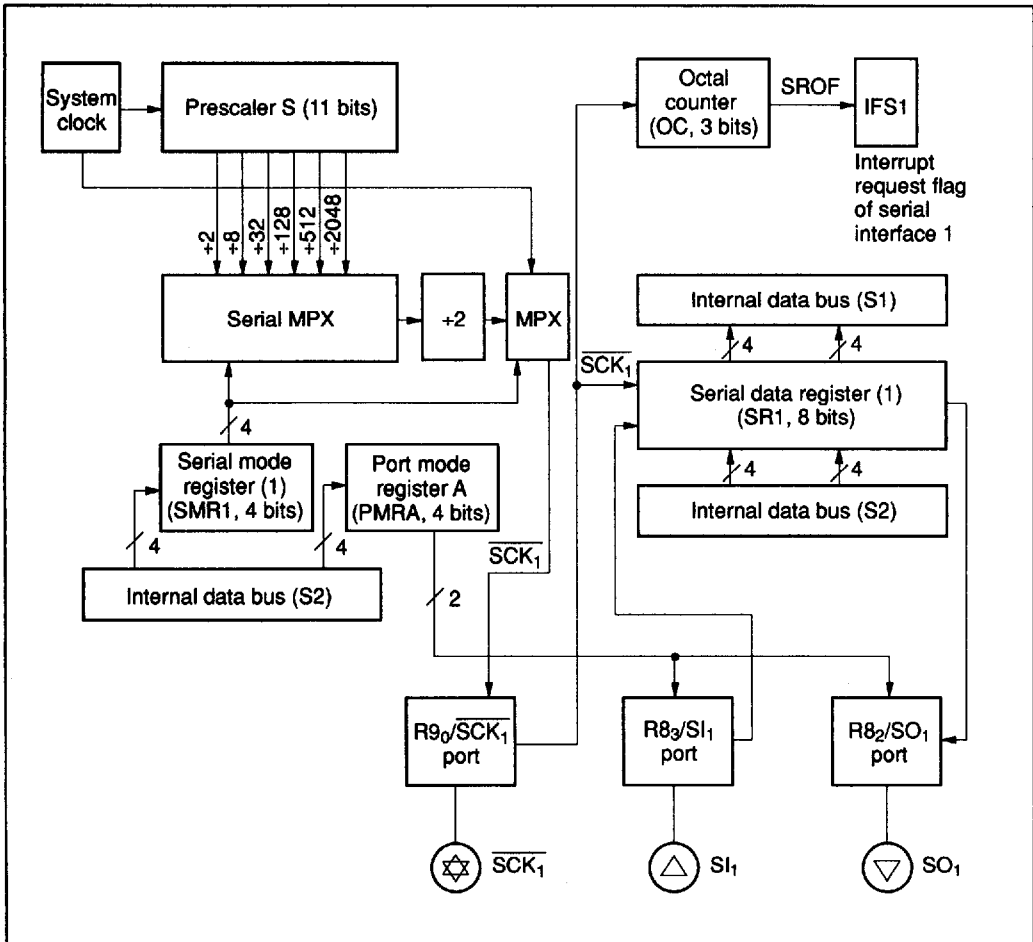

Figure 44 Serial Interface 1 Block Diagram
**Serial Interface 1:** Used to serially transmit and receive 8-bit data. It consists of serial data register 1 (SR1), serial mode register 1 (SMR1), port mode register A (PMRA), an octal counter, and a multiplexer as shown in figure 44. The  $R9_0/\overline{SCK}_1$  pin and the transmit clock are controlled by writing data to SMR1. The transmit clock shifts the con-